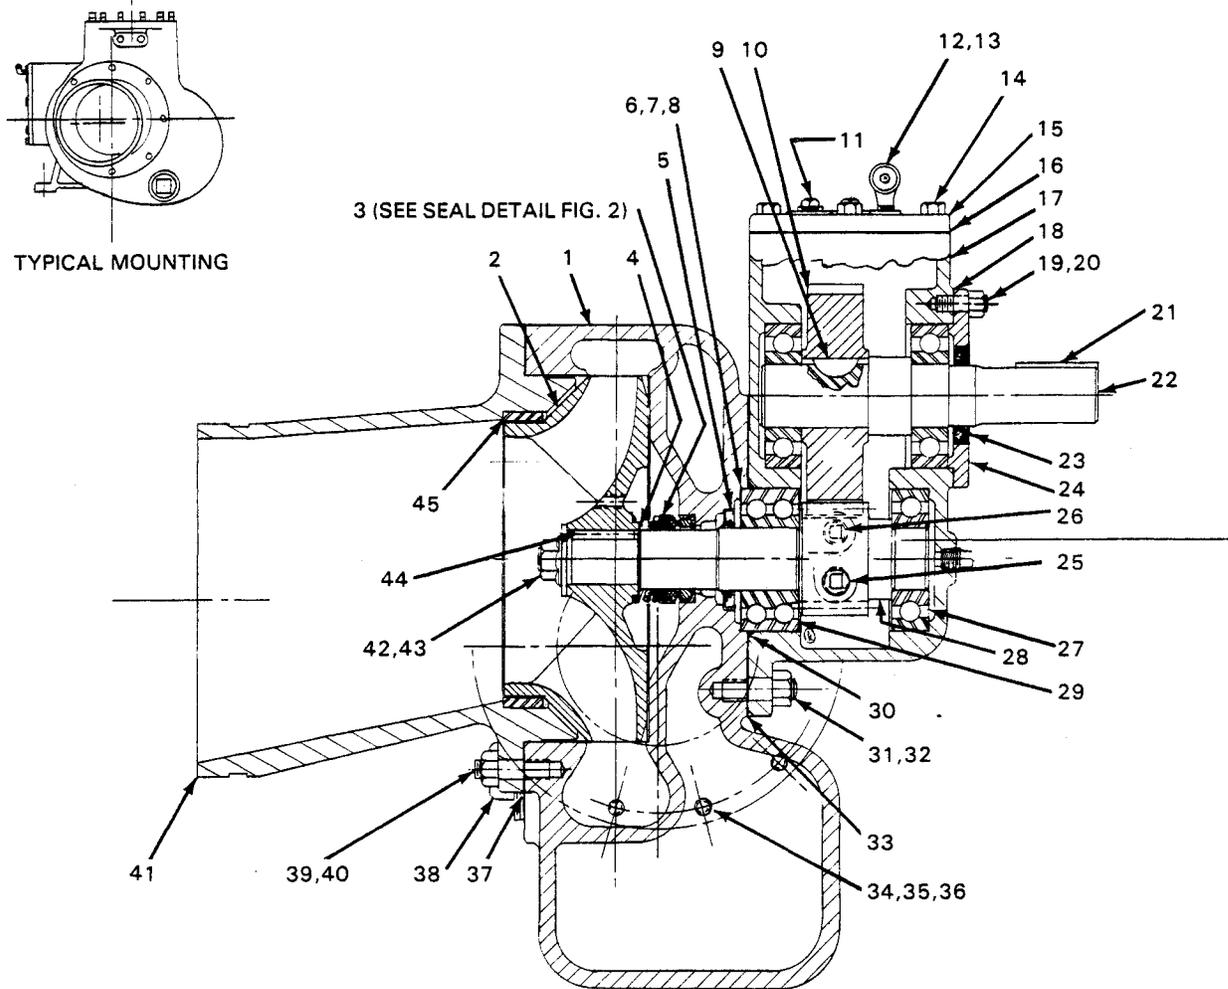

Figure 1. Pump Model 08C1-GAR
This pump requires little service due to its rugged, minimum-maintenance design. If it becomes necessary to inspect or replace components, however, follow these instructions, which are keyed to the sectional view (see figure 1) and the accompanying parts list.
Reinstall the drive shaft bearing in the gearbox housing. Reinstall the drive gear key, and position the drive gear so that it engages the pinion shaft gear. Install the drive shaft and bearing. Inspect the oil seal (23) and replace as necessary. Reinstall the oil seal in the bearing cap, positioning the lip as shown in figure 1, replace the bearing cap gasket (18), and secure the bearing cap to the gearbox housing.
Replace the bearing shims. After final reassembly, shaft end play should fall between .005 and .012 inches; add or remove bearing shims to reach this recommended tolerance. Inspect the oil seal, and replace as necessary. Reinstall the oil seal in the volute housing, positioning the lip as shown in figure 1.